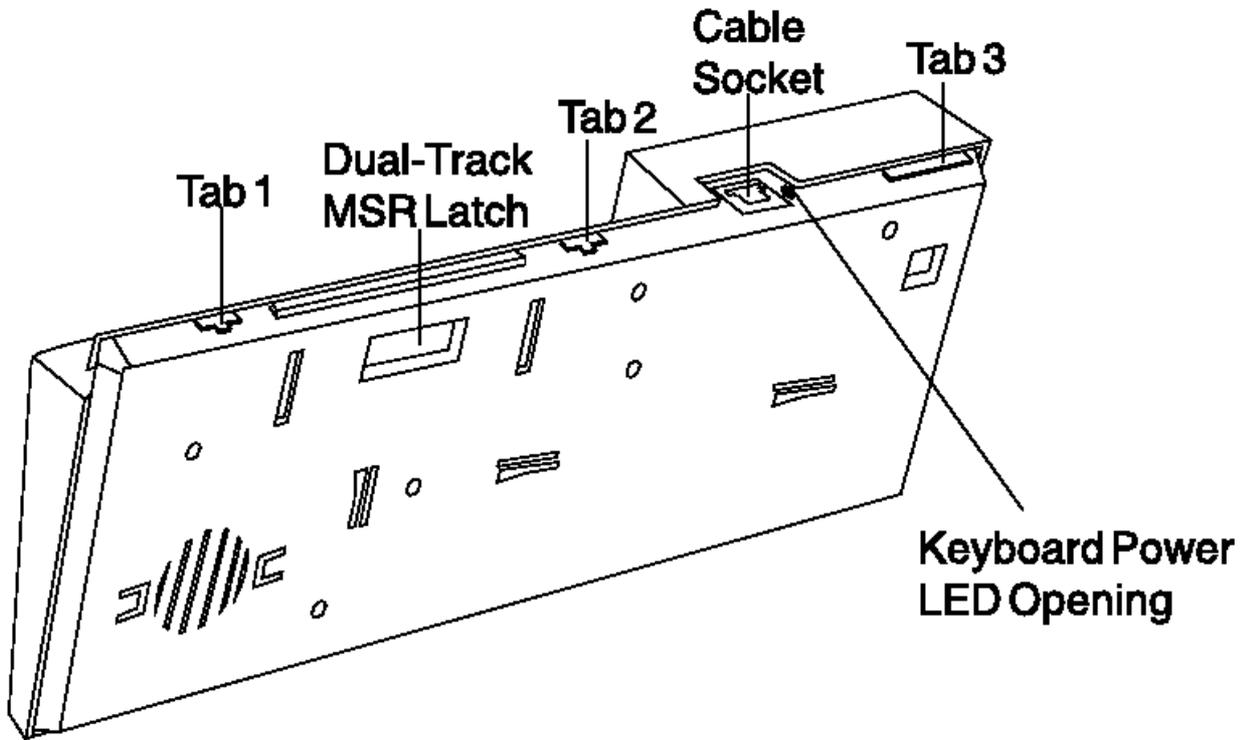

Figure 4-4. Removing the ANPOS Keyboard Cover
2. Unlatch keyboard cover tabs 1, 2, and 3, in that order. See Figure 4-4 in topic 4.3.3.7.